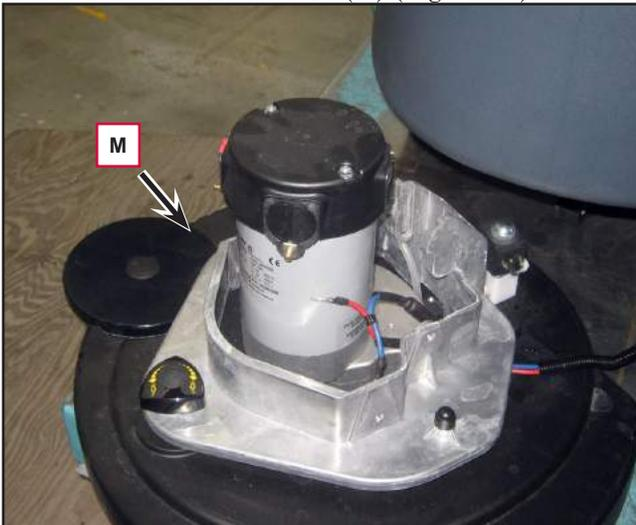

Figure 10
12. Extract the brush deck (M) (Figure 10) from beneath the solution tank.